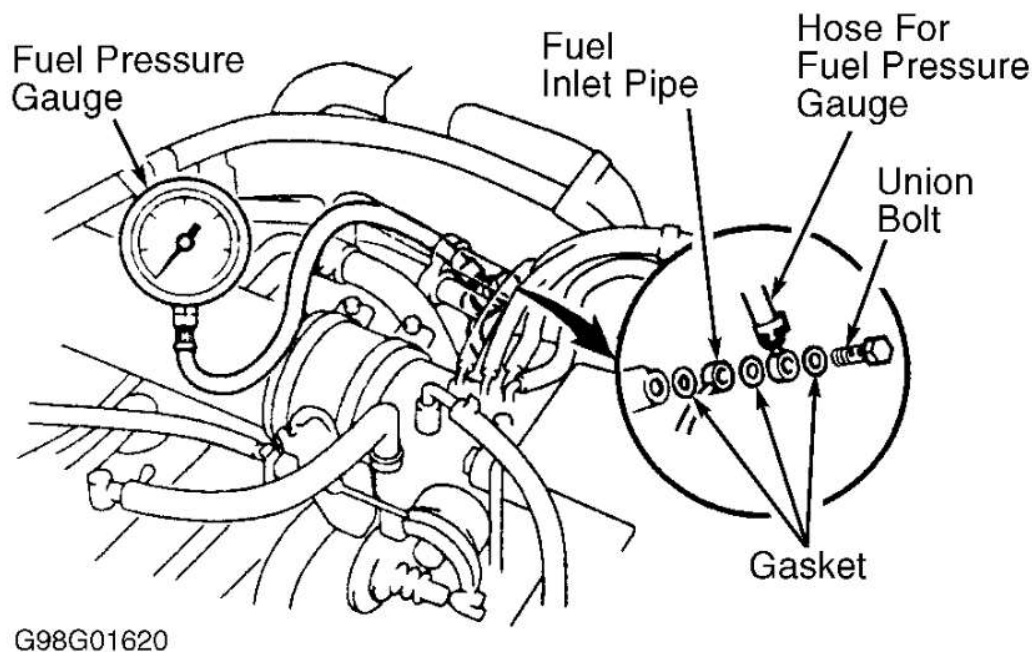

Fig. 37: Installing Fuel Pressure Gauge (Tacoma)
2. Note location for fuel pressure gauge installation on fuel rail. See **Fig. 37** . Fuel pressure gauge is installed at firewall end of fuel rail, between fuel rail and fuel inlet pipe. Cover union bolt at fuel rail with shop towel. Remove union bolt with gaskets, and disconnect fuel inlet pipe from fuel rail.
3. Install fuel pressure gauge from Fuel Pressure Gauge Set (SST 09268-45014) with gaskets, fuel inlet pipe and union bolt on fuel rail. See **Fig. 37** . Tighten union bolt to 21 ft. lbs. (29 N.m).